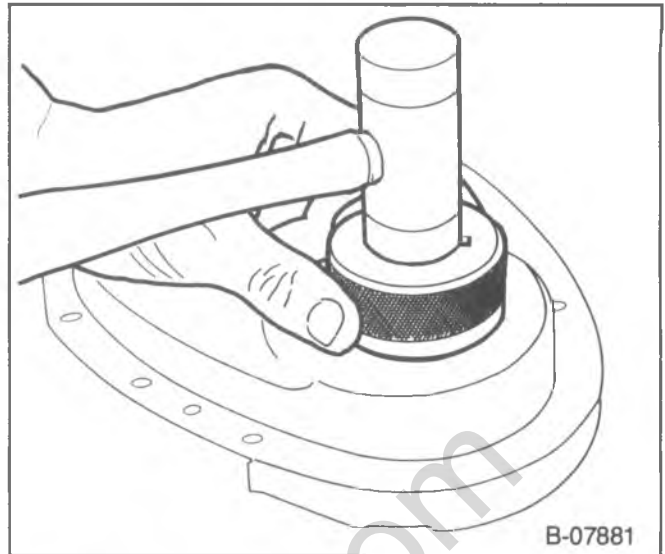

Figure 19—Installing the Front Crankshaft Oil Seal
Install or Connect (Figure 19)
1. Front crankshaft seal. Use J-35468 (figure 19). The open end of the seal faces inside the engine. Coat the seal lips with engine oil.